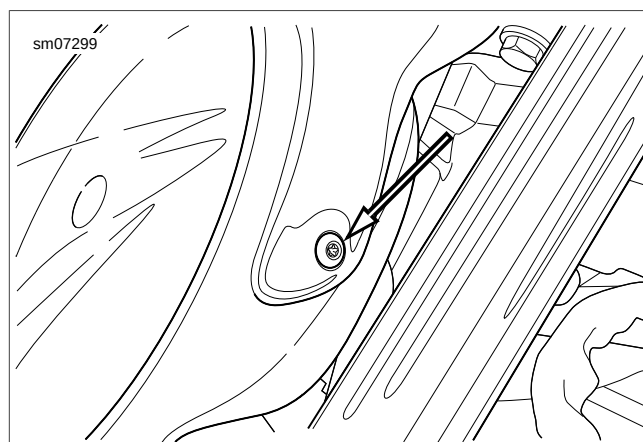

Figure 1-90. Headlamp Alignment Fastener
1. See Figure 1-90. Loosen fasteners slightly so headlamp is still snug.